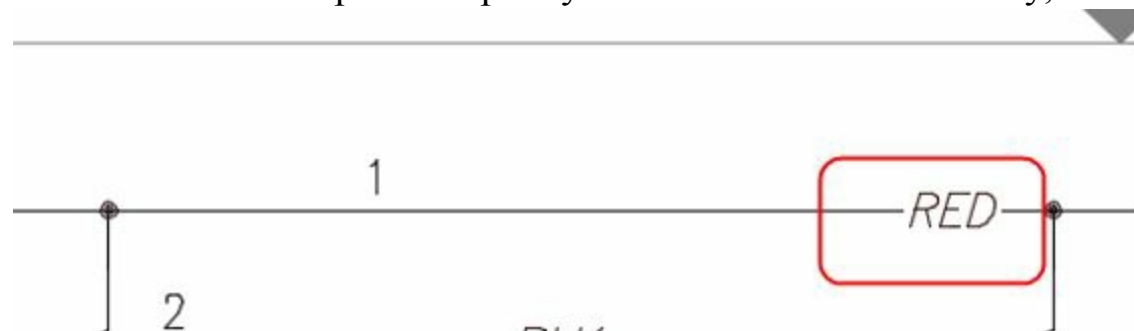

Figure-28. Entity after scooting
- Click at the desire point to specify the new location of the entity; refer to Figure-28.